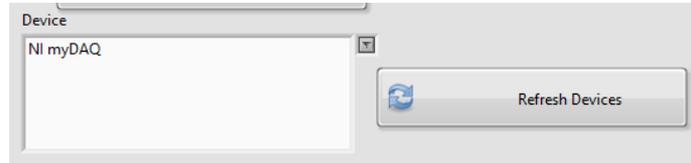

Figure 5.3: Selection of Acquisition Card
Step 5. After logging in the CORELA platform, select NI myDAQ in the External Device Selection Window (Figure 5.3). If no devices are displayed in the window, press the "Refresh Devices" control button.